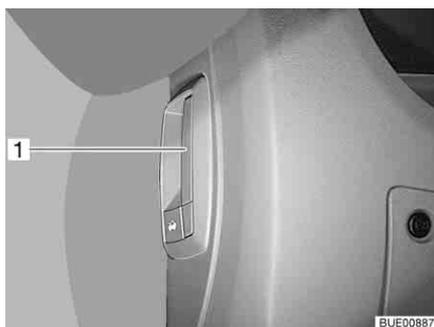

Fig. 42 Release lever for the bonnet (inside the vehicle)
- Pull the lever (Fig. 42,1) on the left under the dashboard or next to it.